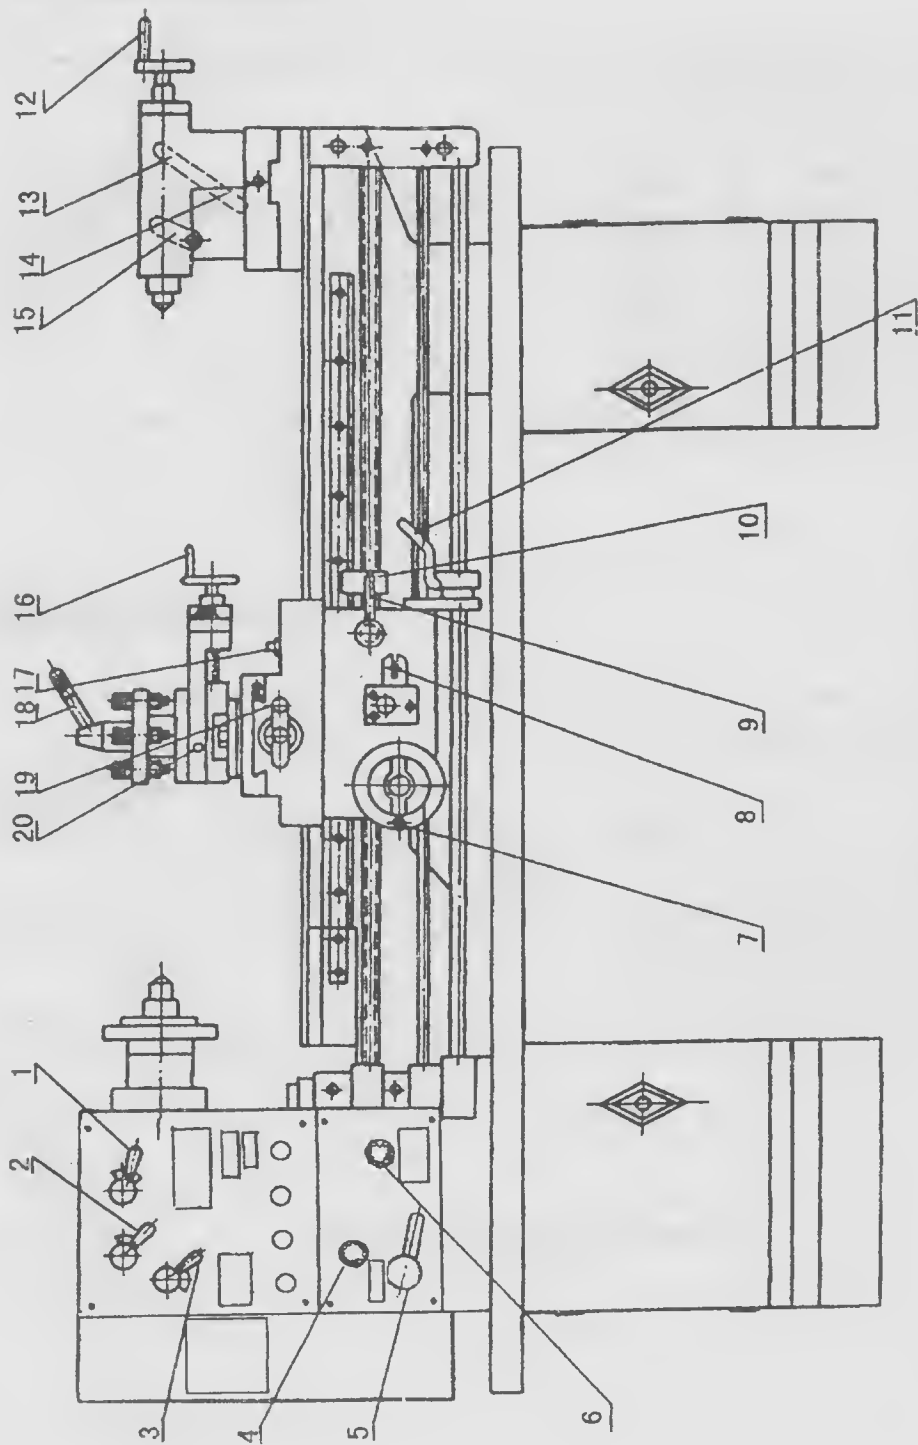

Fig. 16 Machine Operating Levers
4. Machine Operating Lever. See Fig. 16